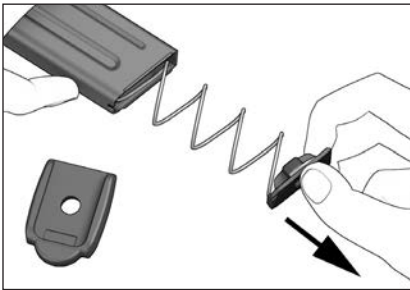

Figure 27
4. Gradually allow the locking plate and magazine spring to expand out of the magazine housing (see Figure 27).